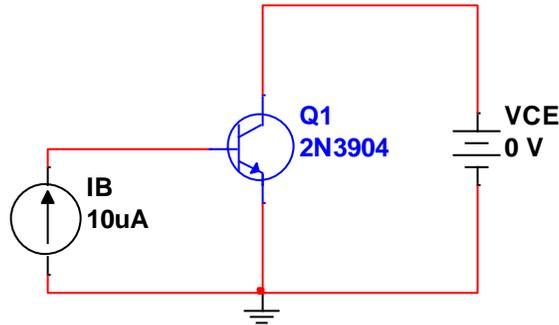

Figure 3 – BJT Characterization Circuit
1. **Build** the circuit in **Figure 3** in Multisim.